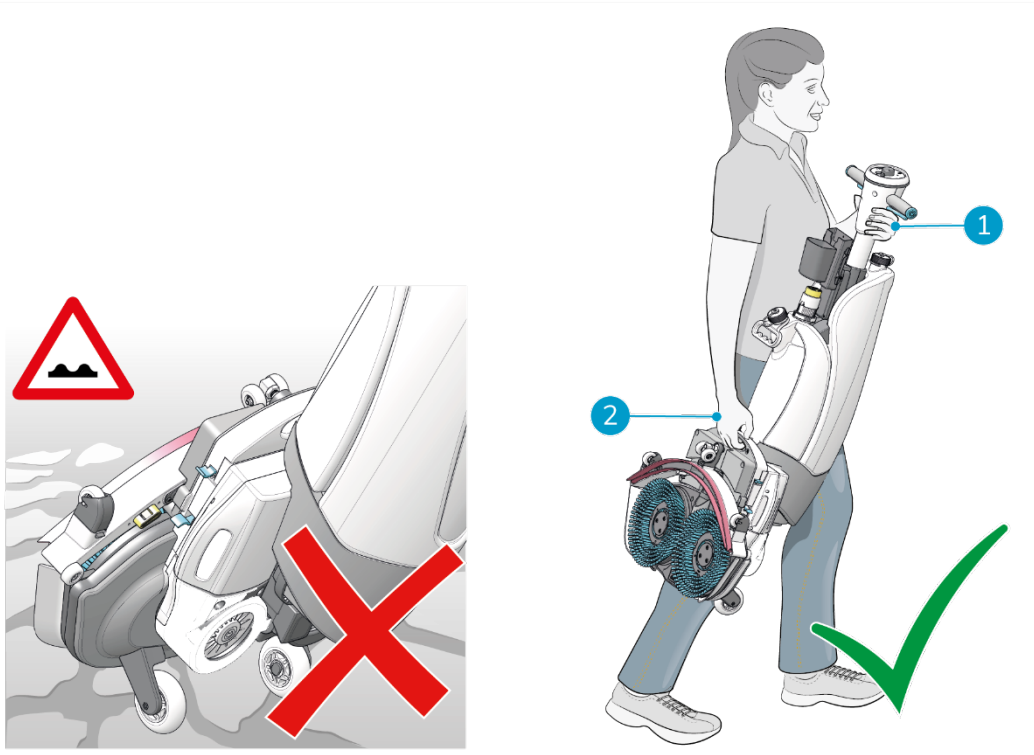

Figure 7
2. Carry the i-mop XL Pro with one hand (Figure 7, pos. 2) while holding the handle with your other hand (Figure 7, pos. 1).